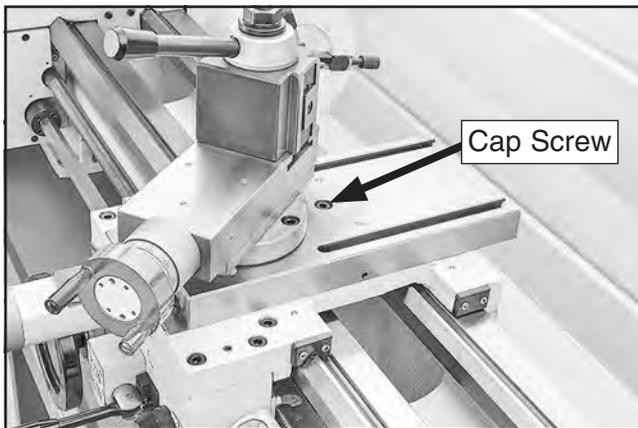

Figure 105. Location of cap screw that secures leadscrew nut.
2. Remove cap screw that secures cross slide leadscrew nut (see **Figure 105**).